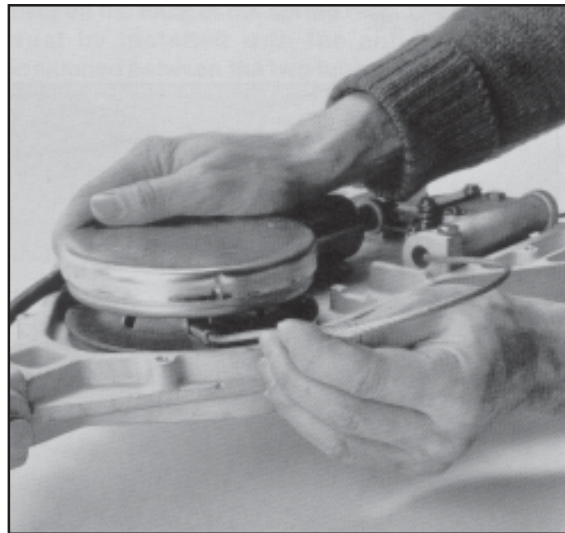

Fig. 26: Insert the end of the trip line.
7) Insert the end of the trip line through the large center hole of the drum. See Fig. 26.